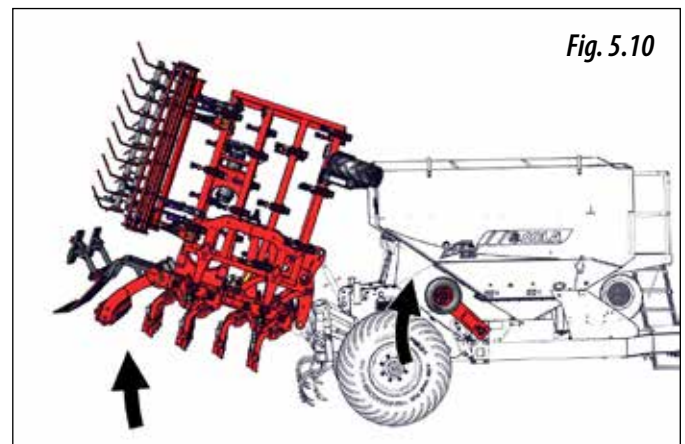

Fig. 5.10
- 4- Raise the coulter unit, the track eraser and the transmission wheel to their maximum height (Fig. 5.10).